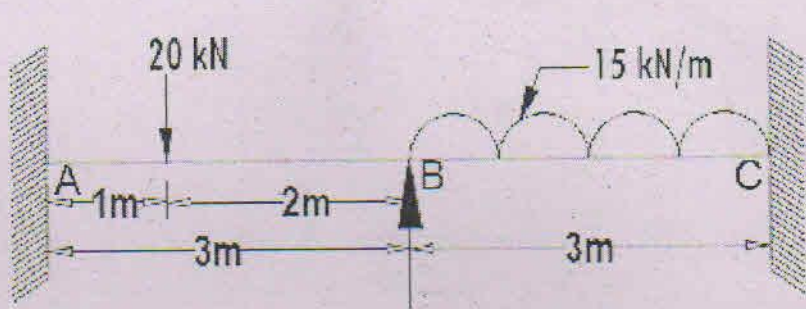

Figure 3
3. The figure 3 shows a continuous beam. The beam is uniform section throughout. Find the support moments using slope deflection method. (10)